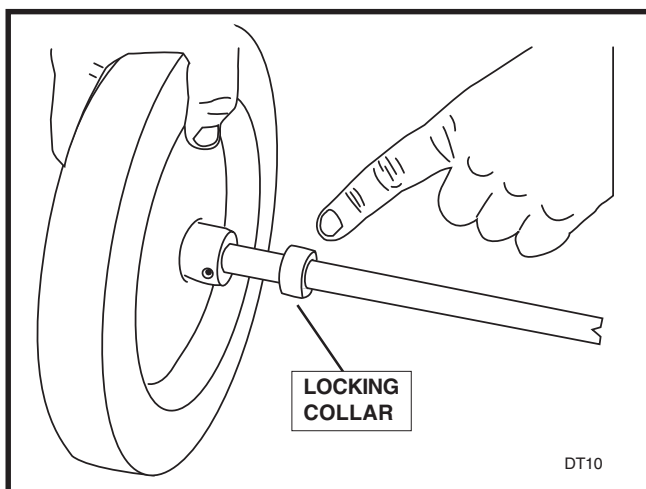

FIGURE 2
11. Add locking collar to shaft, install shaft through bearings and tray. Place the other locking collar on the shaft. See Figure 2. Using a punch tighten the locking collars, then tighten the set screw. Repeat for the other side.